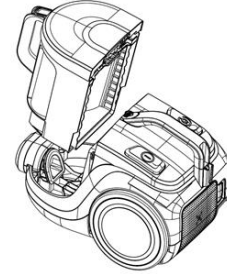

Fig.19
- 9) As in fig. 19, put the dust chamber assembly into the machine. And in this process, first you should align the chamber in the right position and then press the handle of the dust chamber up until you hear a click.